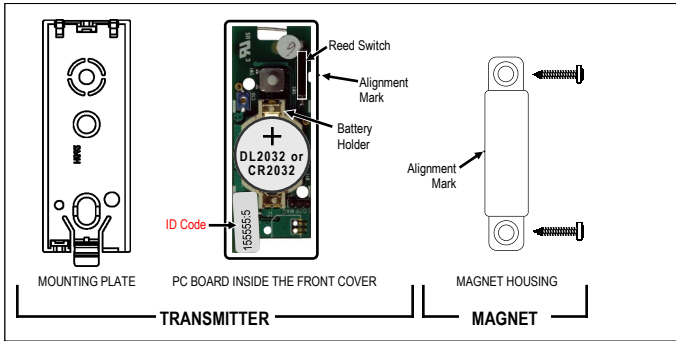

Fig. 1. ISEC-DW-XMITTER Component Parts*
The PC board is factory installed in the transmitter front cover **and must not be removed**. The magnet and transmitter can be mounted in any orientation as long as the alignment marks are placed side-by-side and the magnet is placed up to 5/8" of the transmitter, depending on mounting surface (for reference purposes in this text, the transmitter will be considered oriented with the reed switch at the top, as shown in Fig. 1).
2. **Remove silk strip to activate battery cell.** Battery is preinstalled. Ensure cell remains inserted in its holder after removing silk strip. **Note:** When replacing a weak battery, always remove the old battery from the edge of the battery holder without touching its metal terminals. Always observe polarity; with the positive (+) terminal facing up, press the cell into the holder (see Fig. 1). **Do not insert upside down.**